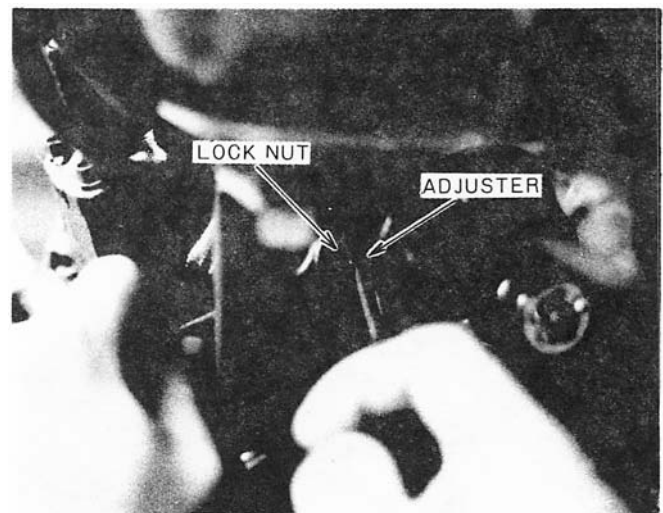

Figure 46 – Steering Wheel Free Play Adjustment
2. Loosen the adjuster locknut on the right side of the steering gear box and turn the adjuster screw, see Figure 46. Turning the screw clockwise will decrease the free play while turning the adjuster screw counterclockwise will increase the steering wheel free play.